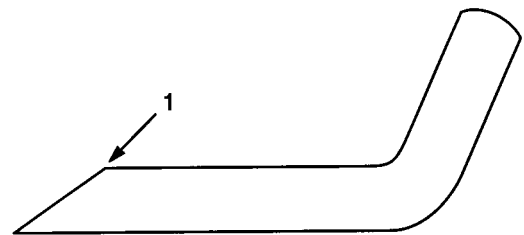

Figure 14
3. Examine the cutting edges of all blades. Sharpen the cutting edges if they are dull or nicked. Sharpen only the top of the cutting edge and maintain the original cutting angle to make sure of sharpness (Fig. 14). The blade will remain balanced if same amount of metal is removed from both cutting edges.
6. Note measurement attained at “A”, rotate blades to the “B” position (Fig. 14), measure distance of all blades to level surface and note dimensions (Fig. 15).
7. Rotate blades to the “C” position, measure and note distance measured (Fig. 14, 15).